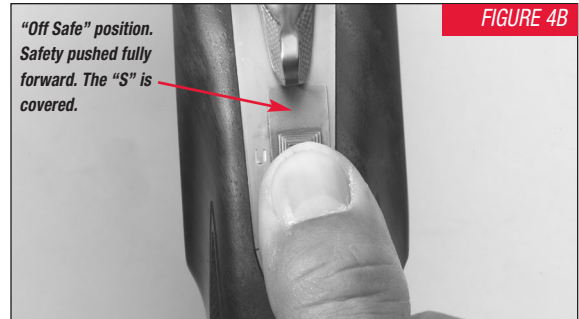

FIGURE 4B
- **“Off Safe”** When the safety switch is pushed fully forward the “S” is covered by the safety switch. This indicates to you that the safety is in the “off safe” position (Figure 4B).